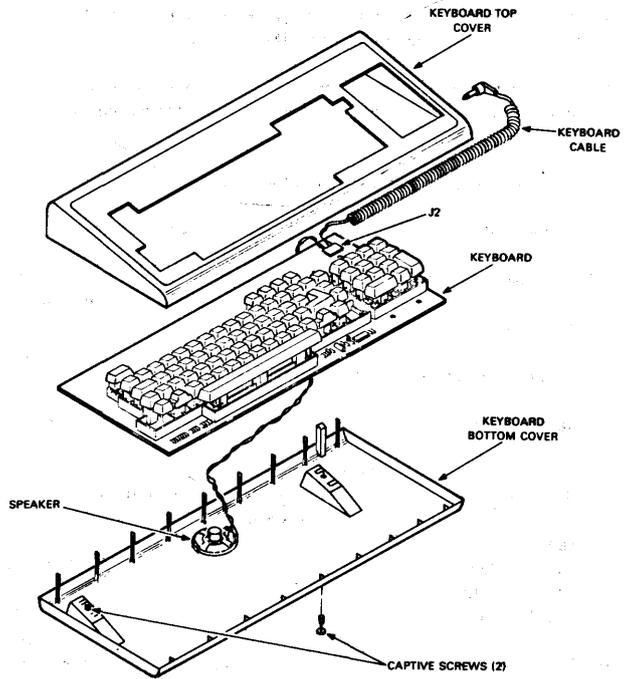

Figure 5-4 Keyboard Disassembly
4. With a blade-type screwdriver, loosen the captive screws holding the keyboard together (Figure 5-4).